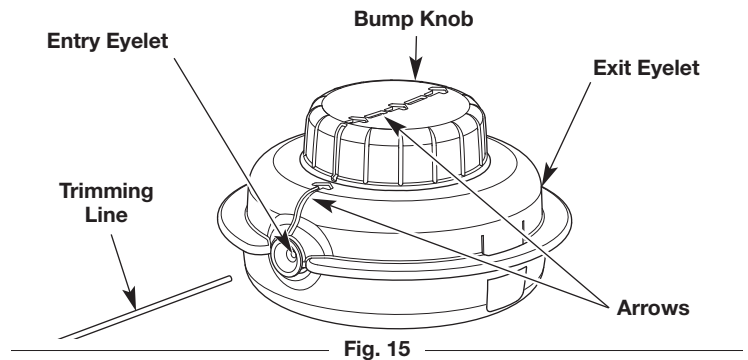

Fig. 15
- Turn the bump knob clockwise to align the arrows (Fig. 15).
- Insert the new trimming line into the entry eyelet (Fig. 15). Push the line through the cutting head until a few inches protrude from the exit eyelet. Pull the protruding line until approximately 10 feet (3 m) of line extends from each side of the cutting head. Make sure the line lengths on each side are equal.